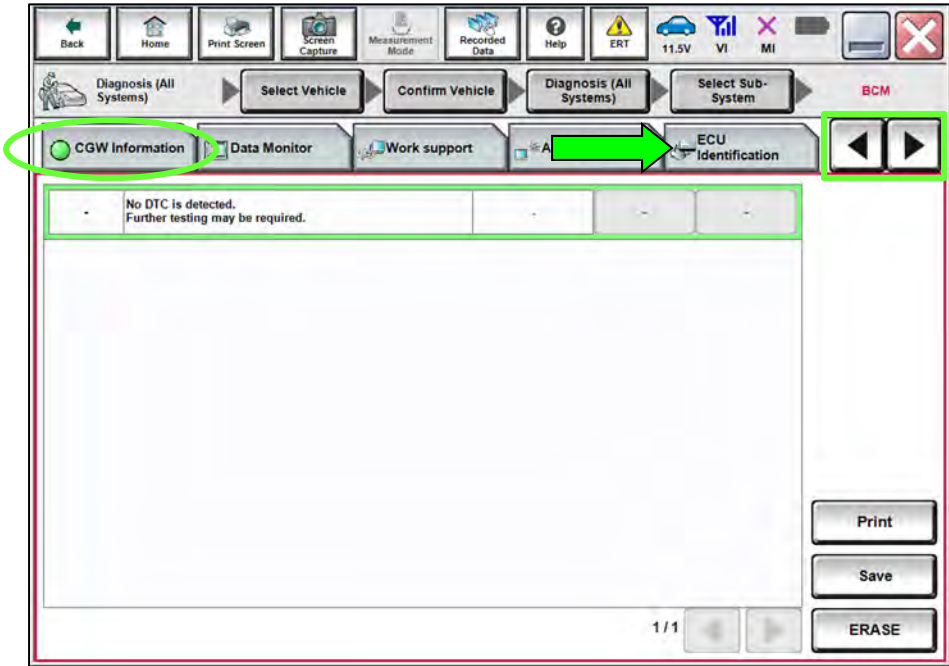

Figure 7
- 13. Confirm the **CGW Information** icon is "green" (Figure 7).